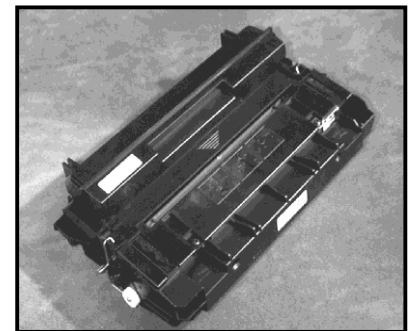

Figure 1
1. Remove two screws located on top of the cartridge (fig. 1).